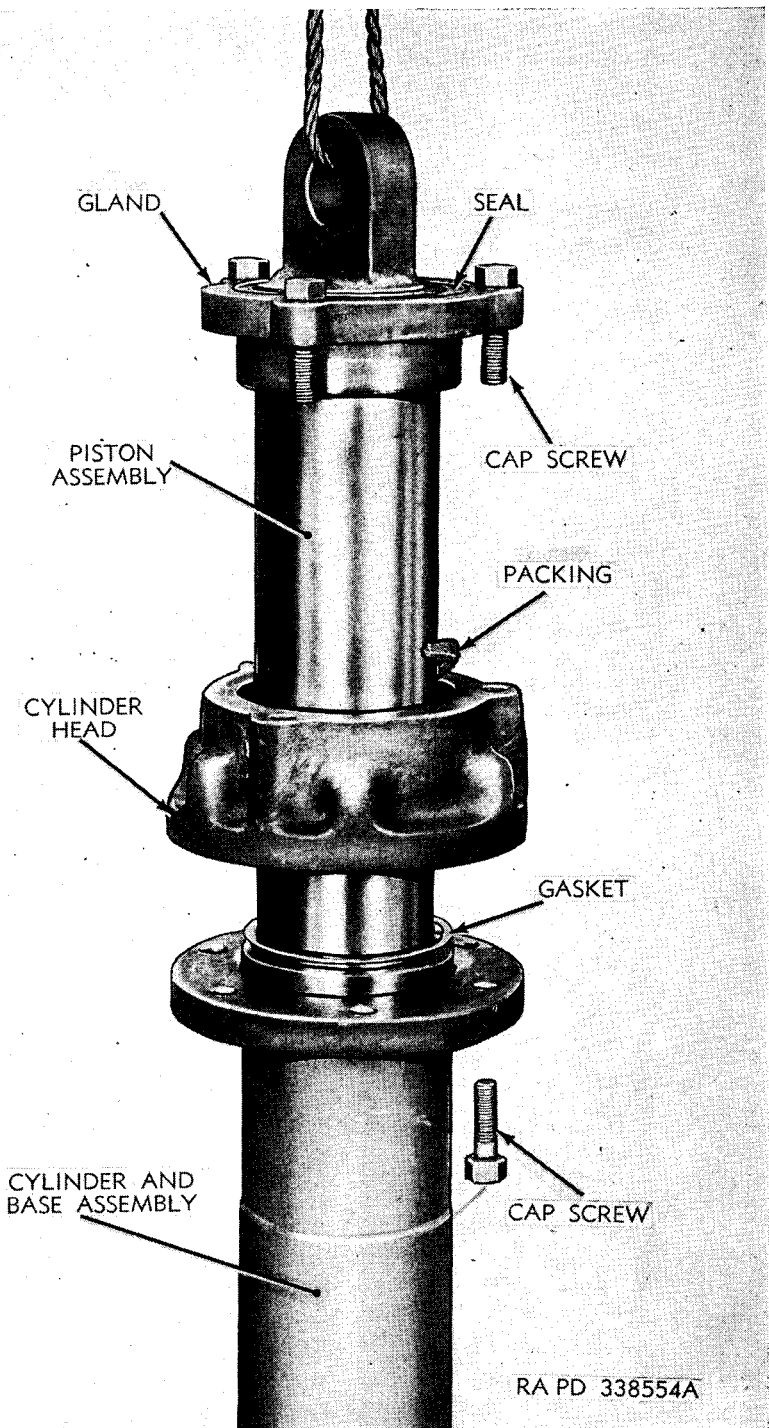

Figure 75. Hydraulic jack assembly—bulldozer M1.
75. Hydraulic Jack (Bulldozer M1) (fig. 75)
b. DISASSEMBLY. (1) Drain oil from jack.
d. Assembly. When assembling the jack (fig. 75), keep all parts clean and free from abrasives of any kind.
(1) Lubricate the inside of the cylinder and the piston with light, clean oil, and install piston assembly in cylinder and base assembly.
(2) Place new gasket in position on cylinder shoulder and slip cylinder head into position, making certain that it seats squarely on shoulder. Secure head in position with six cap screws.
(3) Install the chevron-type packing, one ring at a time, keeping the splits in the packing rings opposite each other.
(4) Slip gland and seal assembly in position on piston. After oil has leaked into the packing rings and thoroughly lubricated them, insert three cap screws and draw down on the gland only enough to keep the oil from leaking by the packing gland.